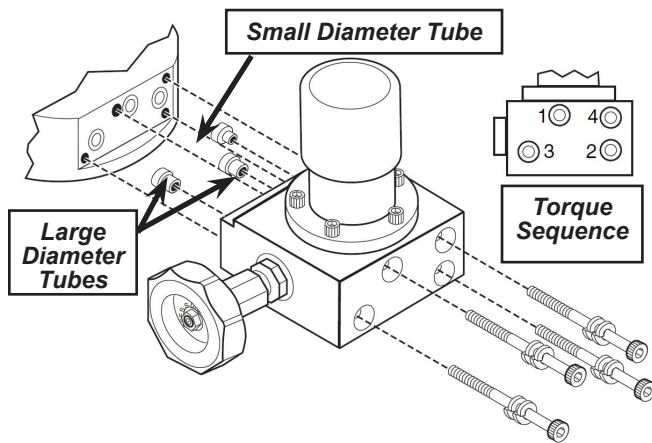

Figure 19
1. Install the four screws and washers into the manifold (Figure 19).
6. Referring to Figure 19 for the proper torque sequence, torque each screw to 50 in/lbs.